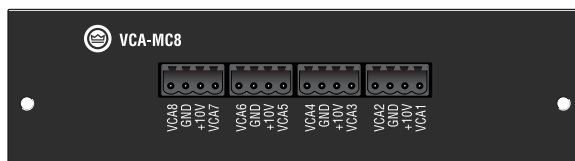

Figure 5.3 VCA-MC8 Module
**VCA-MC (VCA module):** See Figure 5.3. Provides independent remote level control for each channel. 4-pin removable Phoenix-style barrier connectors provide the +10VDC control voltage, ground, and control lines for two amplifier channels. Thus, 4-channel amplifiers use two connectors; 8-channel amplifiers use four connectors.